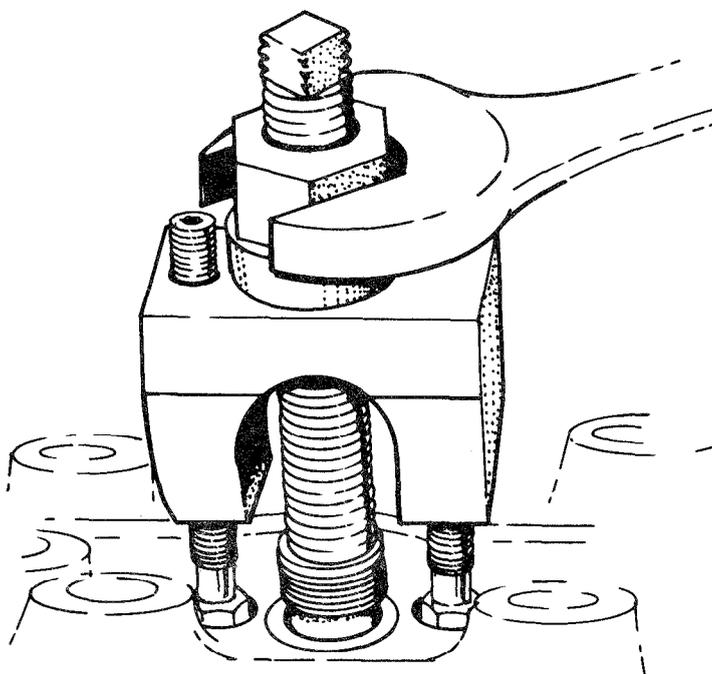

Fig. 11 — Removing Nozzle Sleeve
- b. Install tool S-572 with the adapter and remove the nozzle sleeve (see fig. 11).